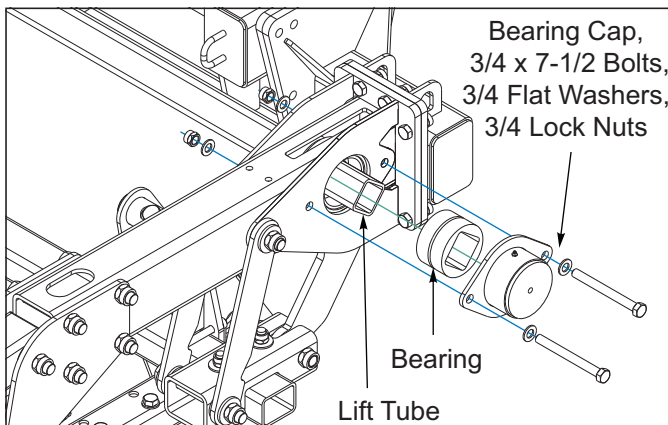

Figure 3-34: Bearing Cap Installation
4. Slide a bearing over the end of the disc leveler lift tube. Secure bearing with a bearing cap, 3/4 x 7-1/2 bolts, 3/4 flat washers and 3/4 lock nuts See Figure 3-34.